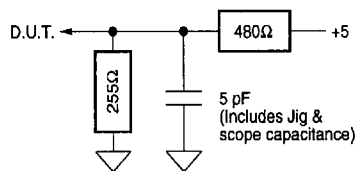

Figure 1b. Output Disable Timing Load
- Transition is measured $\pm 500mV$ from steady-state voltage with load of Figure 1B. This parameter is sampled rather than 100% tested. At any given voltage and temperature, t_{CHZ} max is less than t_{CLZ} min for a given device and from device to device.